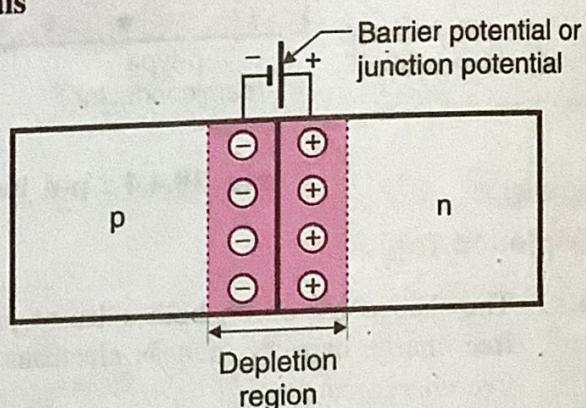

Fig. 10.4.5 : Barrier potential
- Due to the presence of immobile positive and negative ions on opposite sides of the junction, an electric field is created across the junction. This electric field is known as the "barrier potential" or "junction potential" or cut in voltage. It has fixed polarities as shown in Fig. 10.4.5.
- The polarities of barrier potential are decided by the type of immobile ions present on the two sides of the junction. Thus the negative terminal of the barrier potential is on the p side and positive side is on the n-side as shown in Fig. 10.4.5.